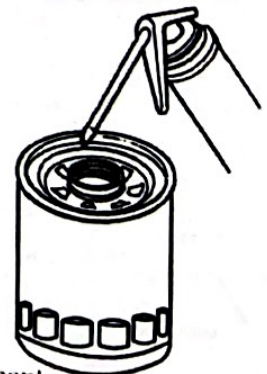

Fig3-12 Replace Oil Filter Element
4.4 Replace spin-on oil filter element; remove oil filter with special tools. Daub a thin coat of oil on the sealing ring of new filter, and install new filter until the filter can be firmly connected with the sealing ring (see Fig3-12). For some filters with paper filter element, filter element is only replaced.